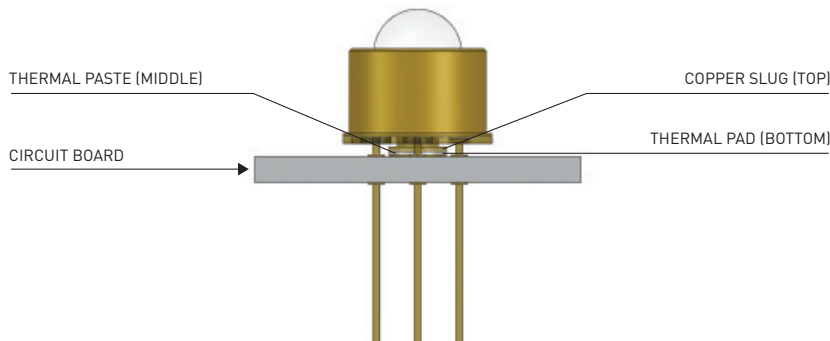

Figure 1
3. Recommended soldering pattern is illustrated in Figure 1. In addition, please ensure that the central copper slug in the header is thermally connected to the board with thermal paste or grease. A heat sink should be used to keep the case temperature of the LED below 55 °C at a forward current of 100 mA. Please refer to the Crystal IS thermal management note AN010 for heat sink recommendations.